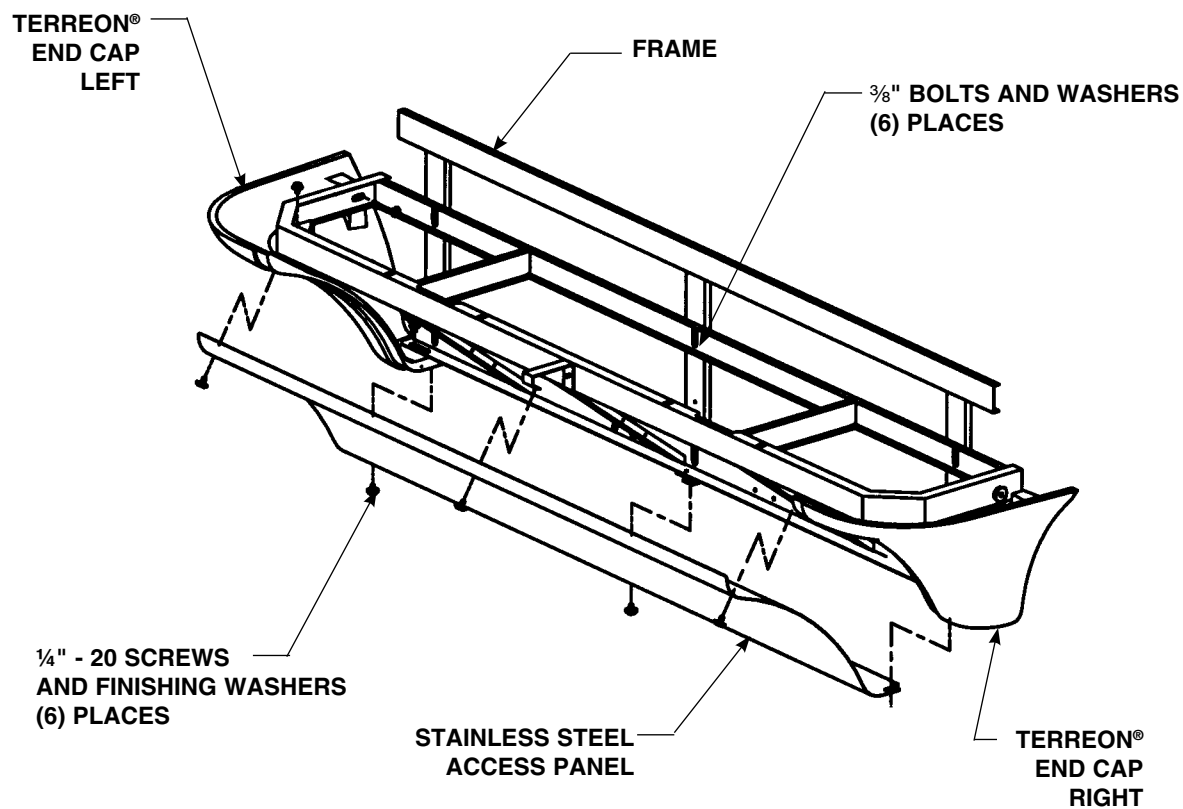
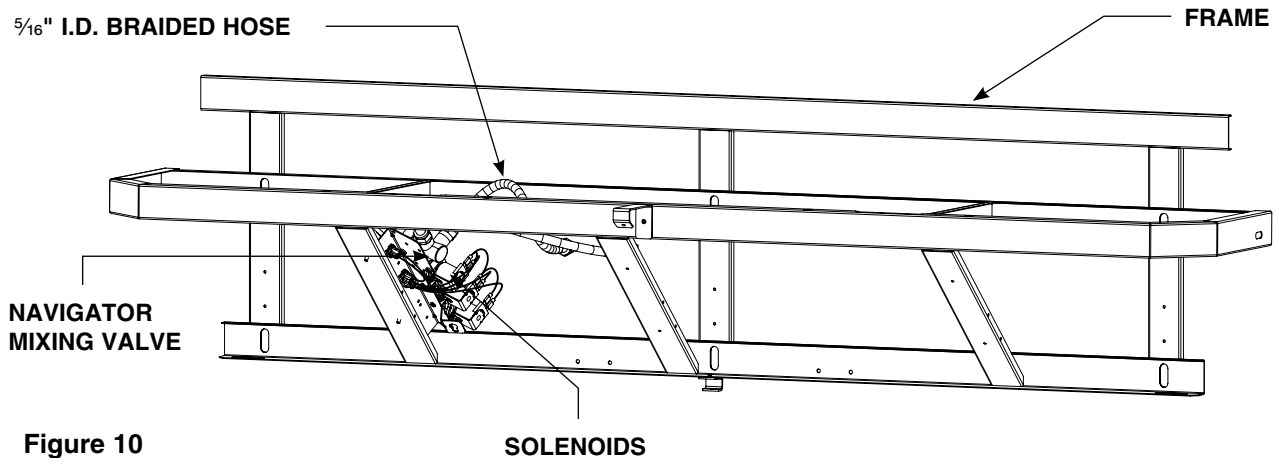

Figure 3
Figure 10
2. Remove the top three access panel screws and washers securing the access panel to the frame and remove the access panel (see Figure 3).
4. Reinstall panel to frame with the five Torx-head screws provided (see Figure 3 on page 8).
Using a $\frac{5}{32}$ " Allen socket wrench, loosen, but do not remove the three bottom access panel screws. Remove the top three access panel screws and washers securing the panel to the frame and remove the access panel (see Figure 3 on page 8). Solenoids are located on left side of frame (see Figure 10).